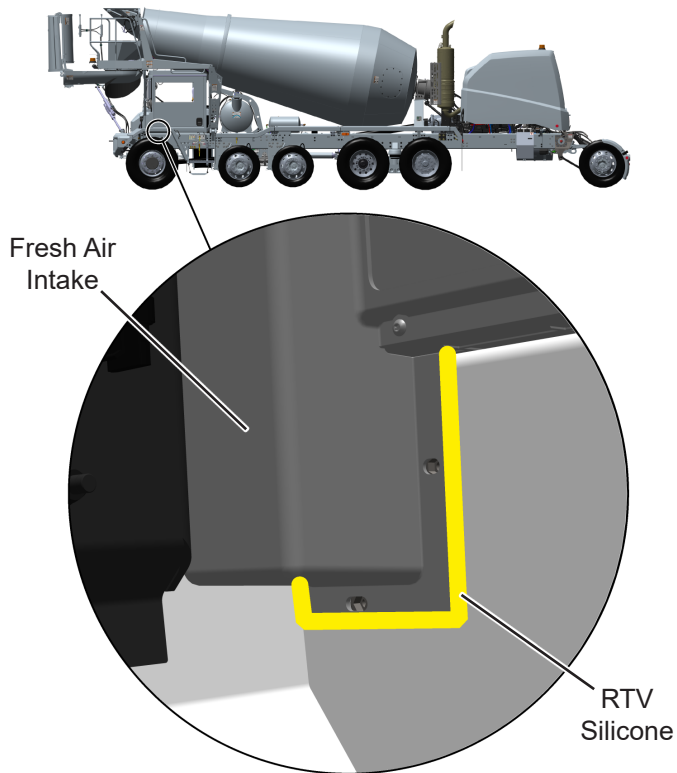

Figure 5. HVAC Fresh Air Intake
6. Apply a bead of RTV sealant around perimeter of fresh air intake mounting flange. See Figure 5.